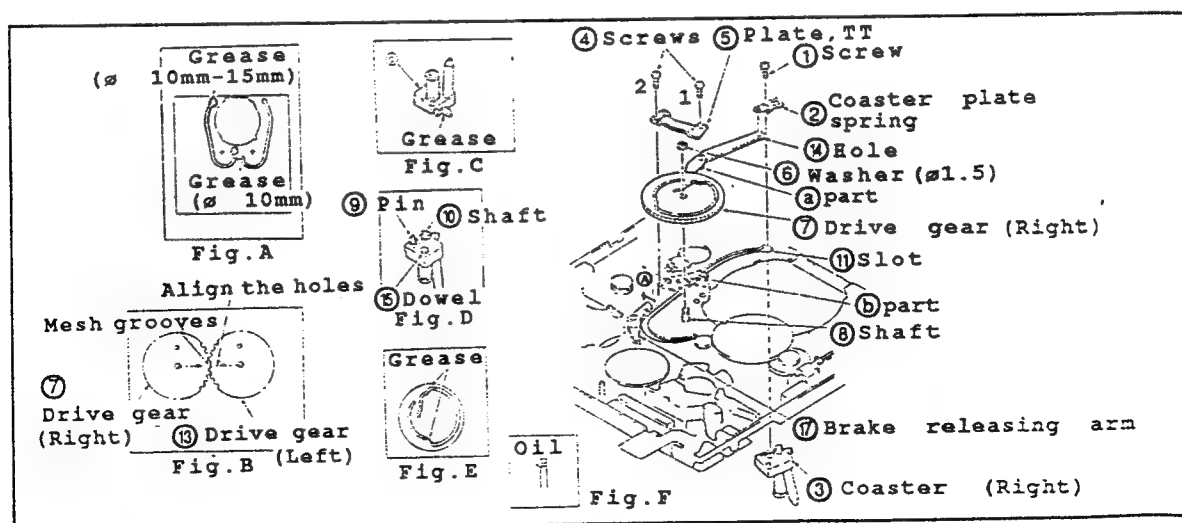

Fig.II-24
• Disassembling (Fig.II-24)
- (1) In the same procedures "3-3" and "3-12", dismount the capstan motor and the drum unit.
- (2) In the same procedures in "3-14", take off the loading lever.
- (3) Set STOP mode.
- (4) To take off the coaster plate spring ② and the coaster (Right) ③, remove the screw ①.
- (5) To detach the plate TT ⑤, remove the two screws ④.
- (6) To dismount the drive gear (Right) ⑦, remove the washer ⑥ (ø1.5).
• Reassembling (Fig.II-24)
*Caution: Do not turn the tilt adjusting screw ③ of coaster (Right). (Repair parts have been already adjusted.)
- (1) Apply the grease to the indicated positions of chassis as shown in Fig.A.
- (2) Apply the 1/2 drop of oil to the shaft ⑧. (Fig.F)
- (3) Apply the grease onto the pin ⑨, the shaft ⑩ and the dowel ⑮ of coaster (Right) ③.
- (4) Assemble the pin ⑨ and the shaft ⑩ aligning the slot ⑪ of chassis.
- (5) Put the brake releasing arm ⑫ to the arrowed direction ⑬.
- (6) Install the drive gear (Right) ⑦ to the shaft ⑧. Then mesh it with the drive gear (Left) ⑮ while aligning each phases as shown in Fig.B.
- (7) Align ⑬ with ⑭, the hole ⑭ with the pin ⑨ of coaster (Right) ③, respectively.
- (8) Secure the washer ⑥ (ø1.5).
- (9) Assemble the coaster plate spring ② while aligning the shaft ⑩ (coaster ③) with the pin ⑨. Then, secure it with the screw ①. (Torque: 500g/cm approx).